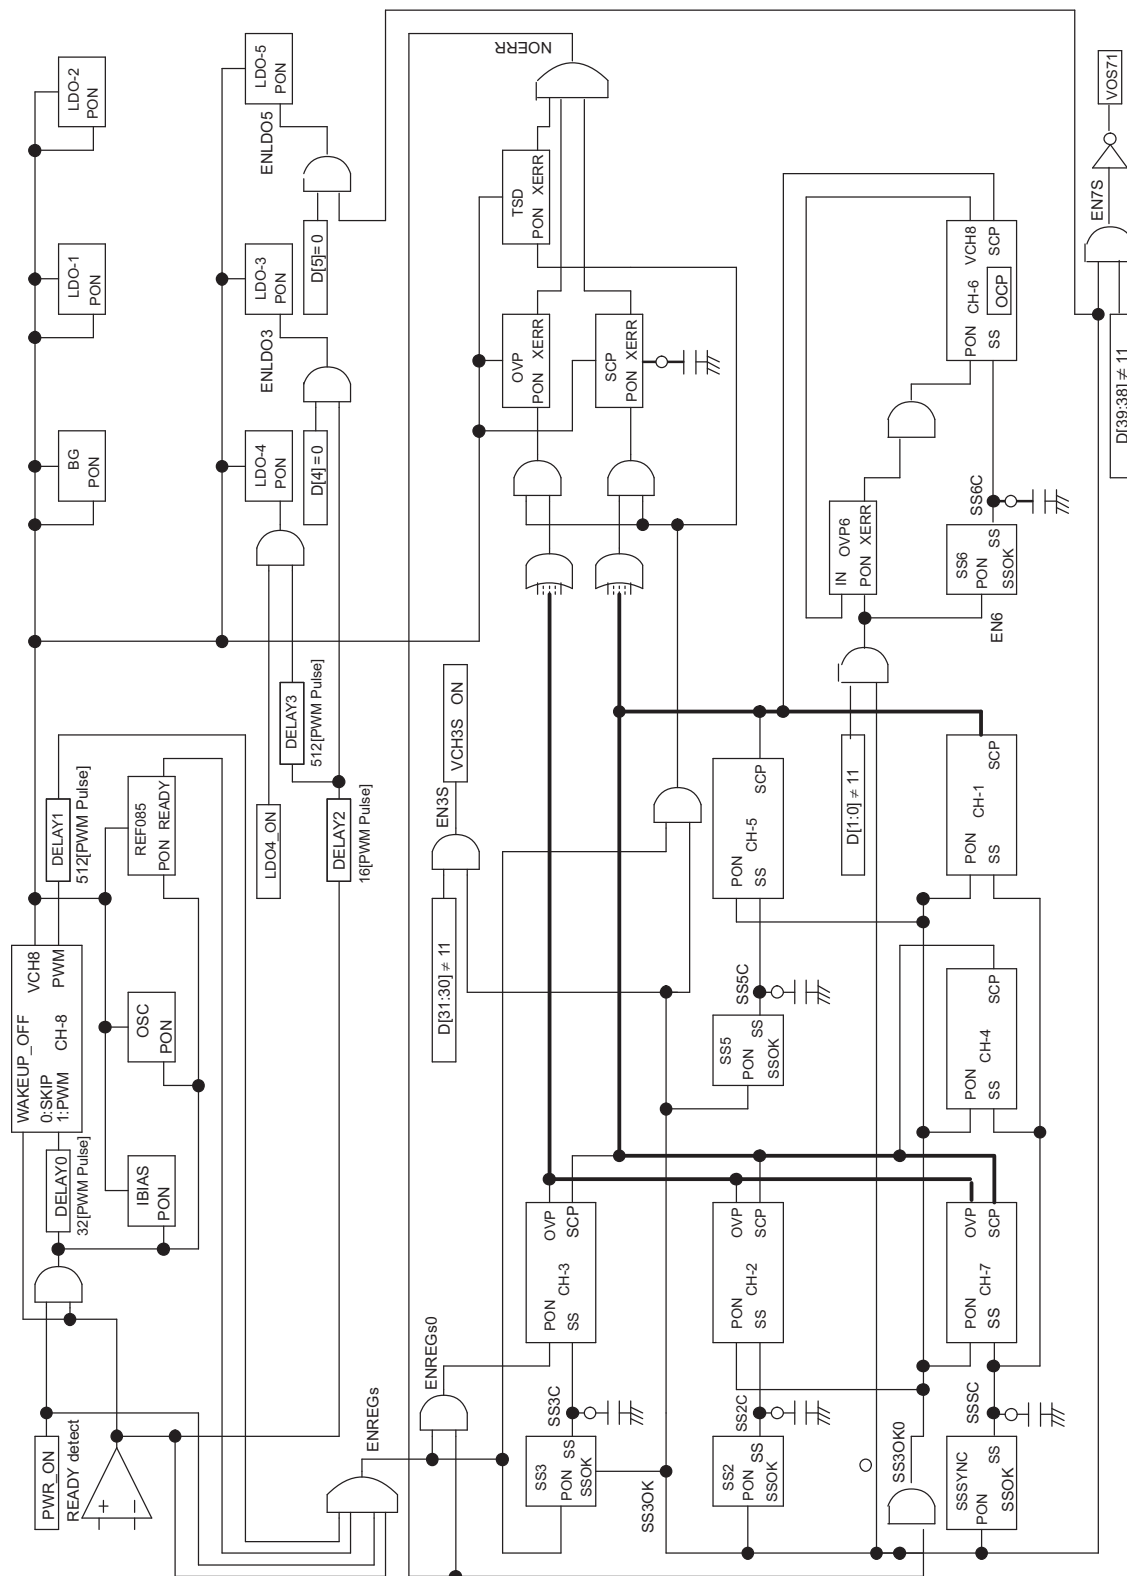
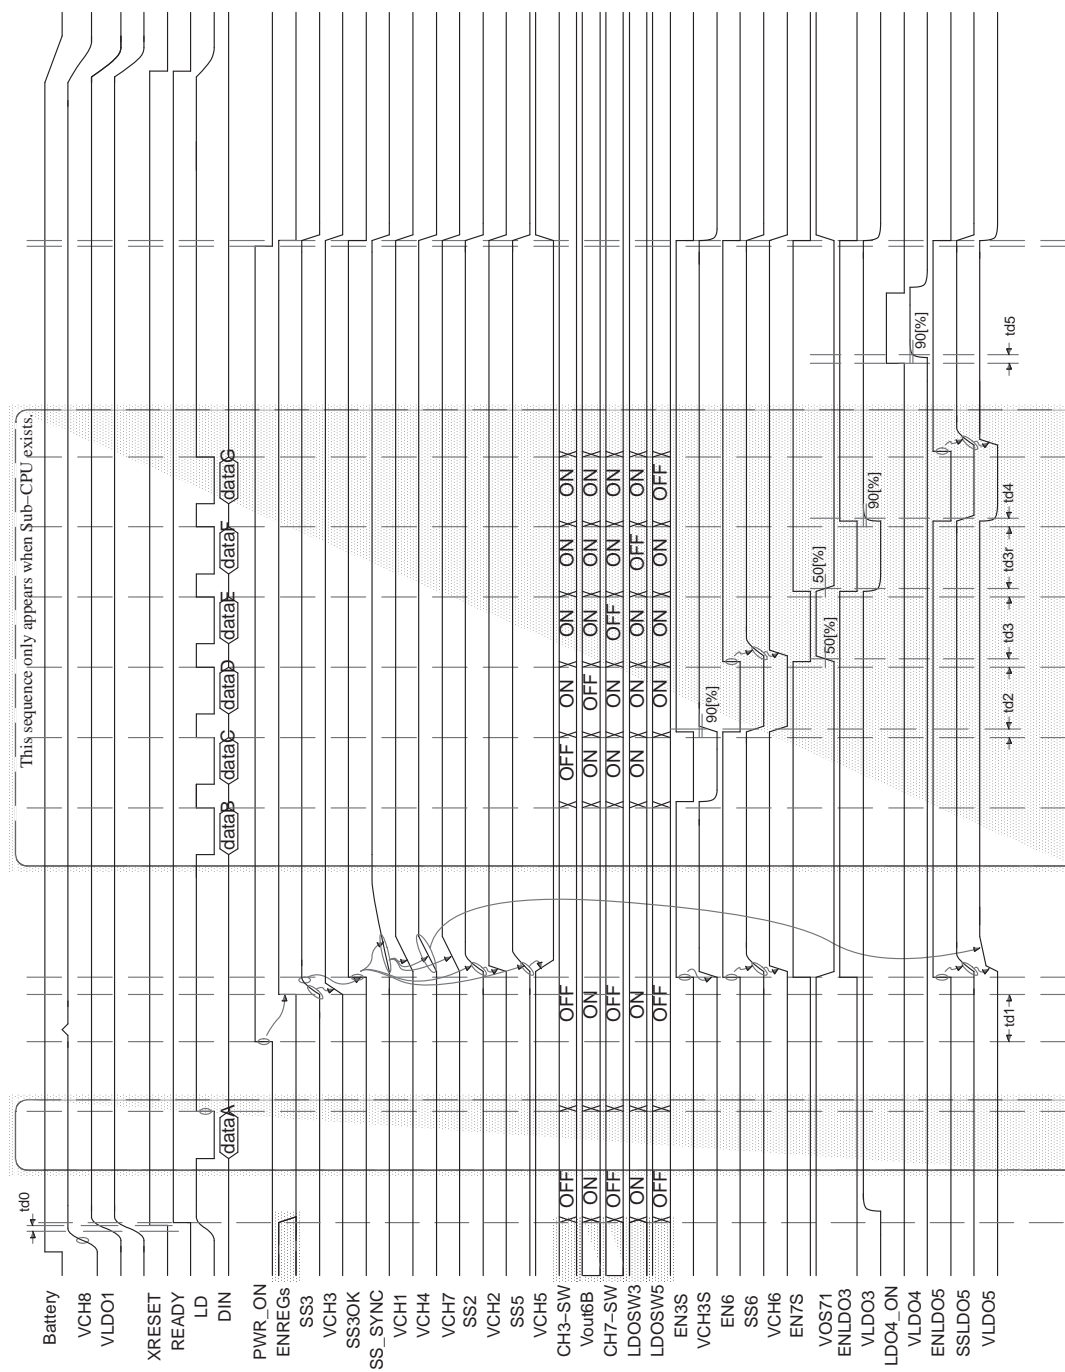

Figure 29. Enable Signal Connections
Figure 30. Operation Sequence Chart
A delay is inserted before LDO-3 is turned on so that the entire system can start up and be stable. LDO-3 cannot be turned on until approximately 30 μ s elapse after the detection of READY. DELAY2 in Figure 29 represents this delay.
To prevent an inrush current during startup, LDO-4 has a delay so that it is not turned on simultaneously with LDO-3. LDO-4 cannot be started until 1.03 ms elapses after the detection of READY. This ensures that LDO-4 is not started until 1 ms elapses after the startup of LDO-3, which is started 30 μ s after READY detection. DELAY3 in Figure 29 represents this delay.
Figure 29 shows the connection of enable signals for the TPS65520A. Figure 30 shows a timing chart. In Figure 30, ENREGs, EN3S, EN6, EN7, ENLDO3, and ENLDO5 represent the internal enable signals shown in Figure 29.
In Figure 30, the TPS65520A performs the following operation, described along the time axis in the figure:
2. On the rising edge of PWR_ON, CH-8 exits from skip mode and enters PWM mode. The DELAY0 and DELAY1 blocks, shown in the upper part of Figure 29, insert delays to ensure that the mode transition is over before channels start operating, resulting in a total delay of 544 PWM pulses to complete this process.
The shaded portions of Figure 30 represent the on/off control applied by the Sub-CPU (if used) through the serial interface. If a Sub-CPU is used, control registers are written between the rising edges of XRESET and PWR_ON. Any channels that have been turned off do not start until the Sub-CPU turns them on again. If the Sub-CPU specifies *off* for a channel that has been active from the startup, the channel goes off from that instant.